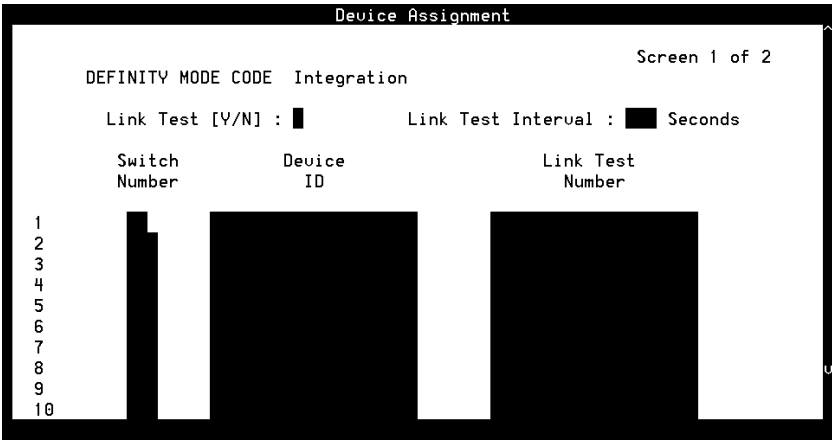

Figure 6-21. Device Assignment Window for DEFINITY R6csi and DEFINITY Mode Code Switches
2. The system displays the first of two screens of the Device Assignment window (Figure 6-21).